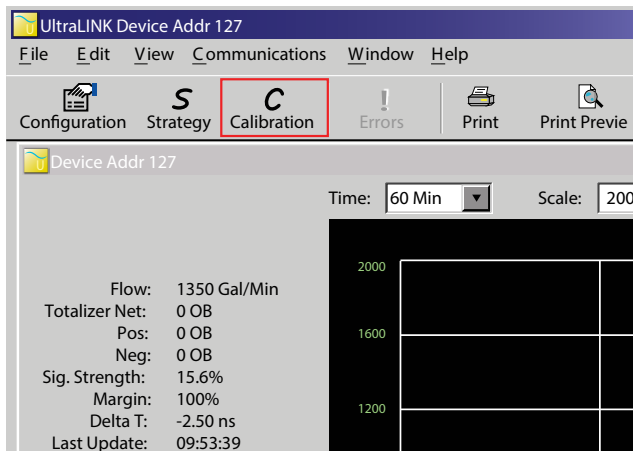

Figure 60: Data display screen
2. From the tool bar, select **Calibration**. See *Figure 60*.